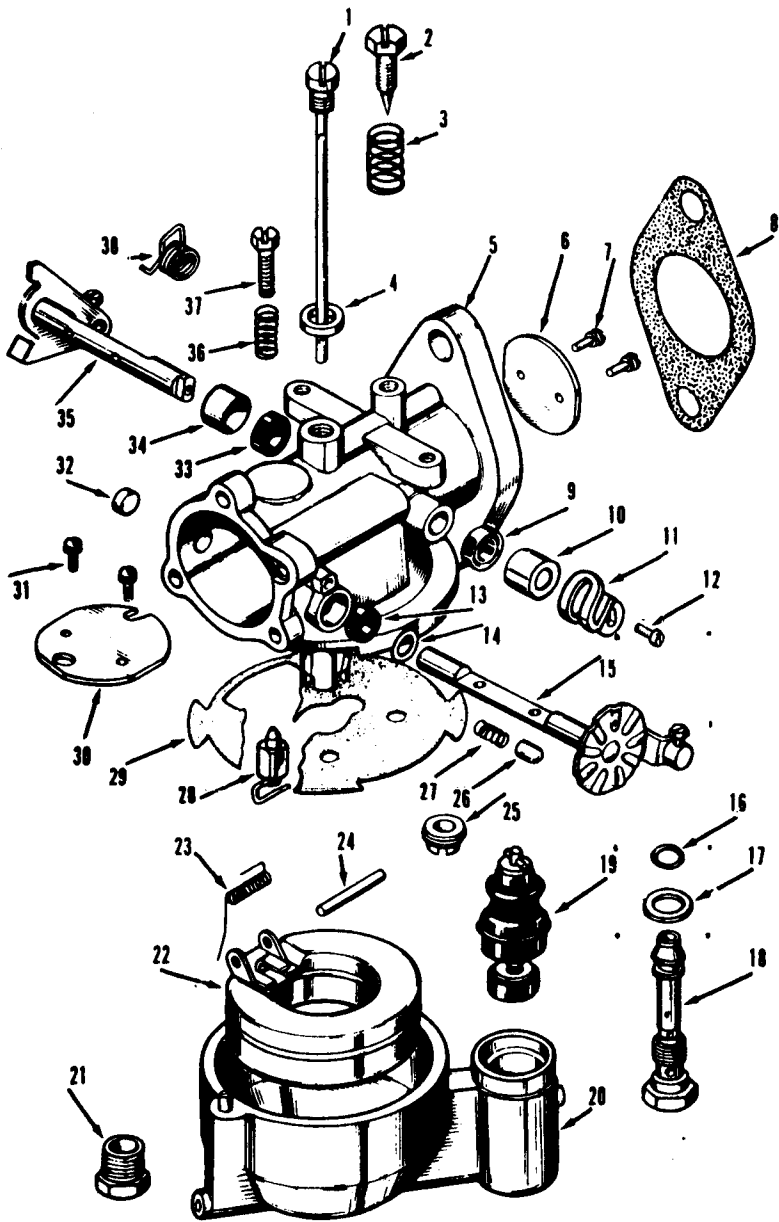

Figure 1
**NOTE:** The numbers in parenthesis in the following procedures are keyed to the parts shown in Figure 1.